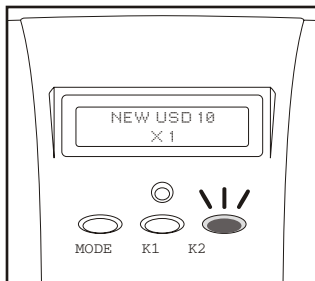
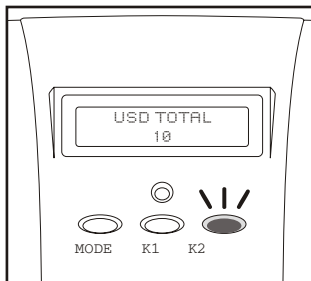

Figure 9
Figure10
1) To view the information: Once the unit displays “READY”, press the “K2” button repeatedly to view all the information stored in the memory (figure 9). The last message will always read the totals analyzed by the unit (figure 10).